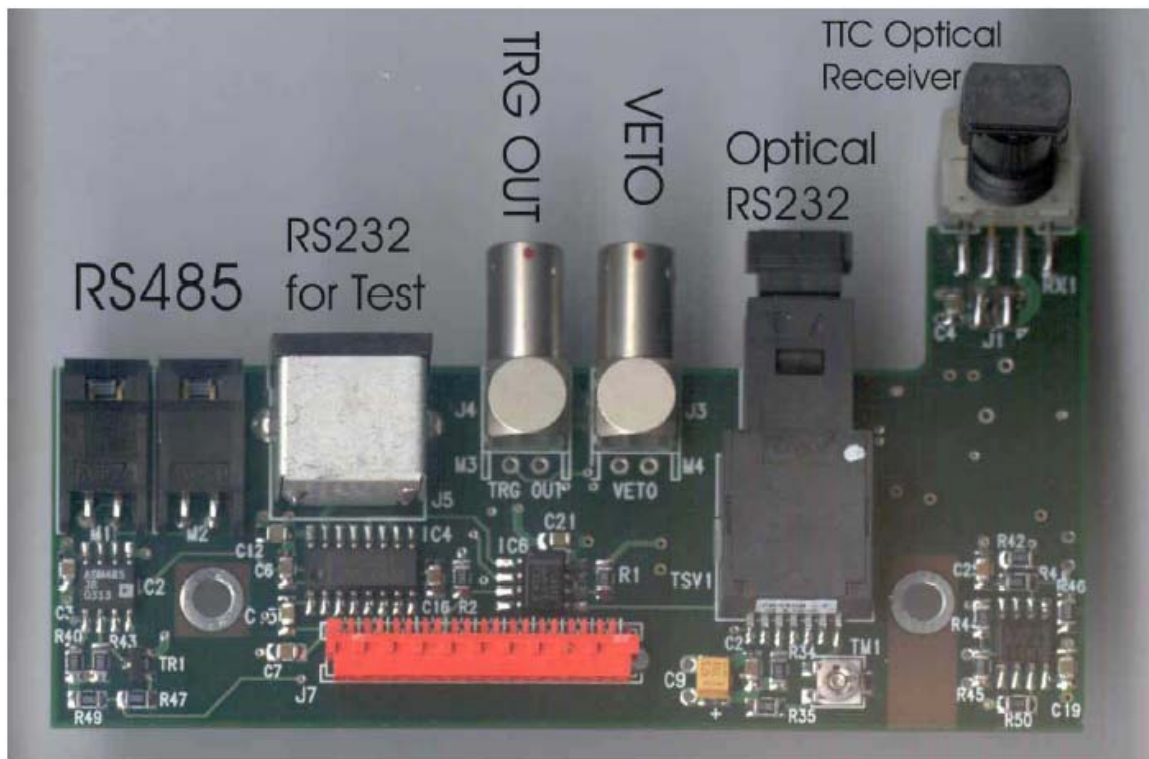

Figura 1: Link Board Connections (both RS485 connectors are equivalent)
- Connettere fibra TTC, fibra RS232 Ottica, e RS485 (vedi Figura 1).